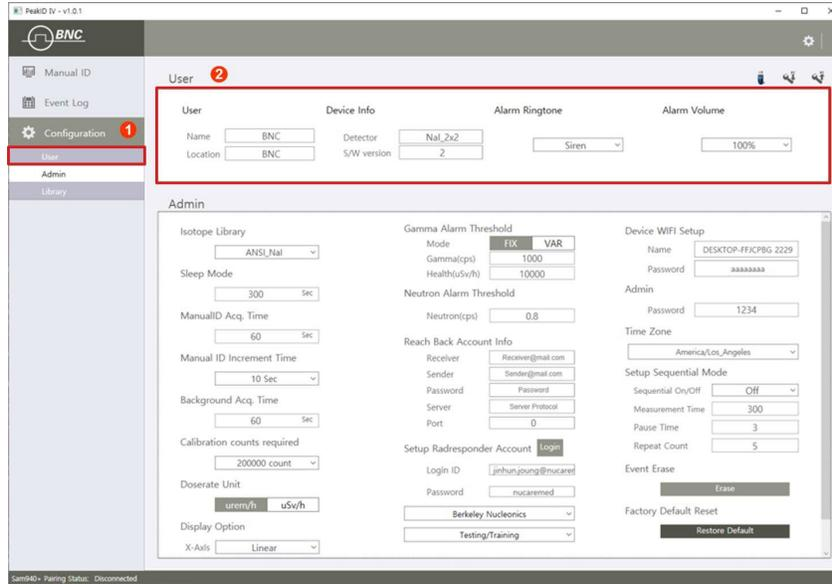

Figure 7.9.5. User Setup Example
2. Enter the Administrator password ②. The default password is **1234**. The Admin configurable List is shown in figure 7.9.5. ③.